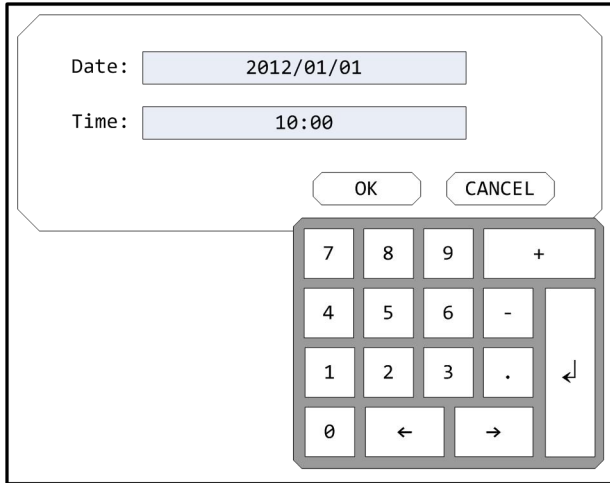

Figure 2-5 Date Edit Screen with Number Key Board Showing
2. To edit date, select the Date edit box (labeled "Date:" on the left side) and use the Number Key Board shown accordingly to input numbers (Figure 2-5). The date format is "YYYY / MM / DD". Here 'Y' stands for year, 'M' stands for month and 'D' stands for Day. The acceptable range of date from "2000 / 01 / 01" to "2099 / 12 / 31". Improper date is not acceptable, for example "2012 / 06 / 31" or "2013 / 02 / 29".